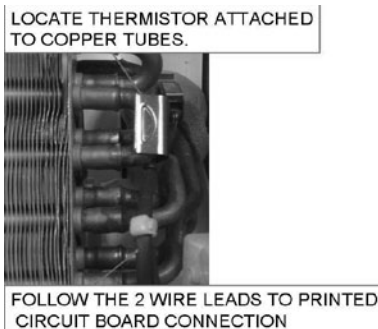

Fig 3
4. To connect the Wire Harness, first find the location of the mini-split's thermistor. It is attached to one end of the exposed copper coil (fig 3). Track the two (2) wires from the thermistor to the connected printed circuit board. At that location, remove the connector of the thermistor (fig 4). Plug either end of the Wire Harness into the printed circuit board, and plug the opposite end into the thermistor connector (fig 5).